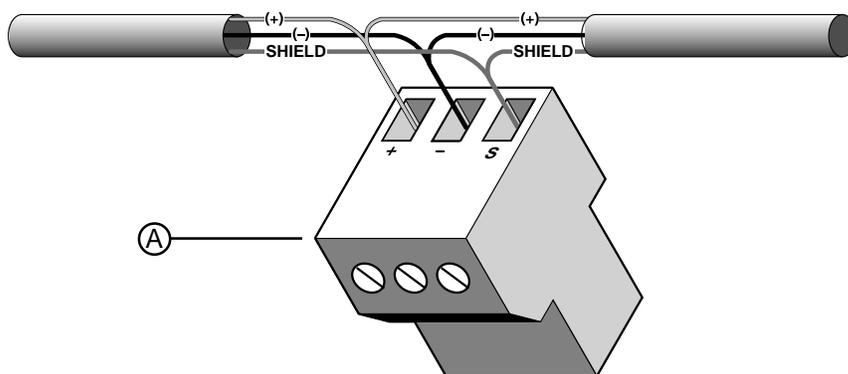

Figure 11: Connecting communications wires to the RS-485 terminal block
Each Enercept meter has a 3-position plug-in RS-485 terminal block (figure 11) for connection to a 2-wire Modbus communications link. On the Enercept meter, the communications connections are labeled +, –, and S (shield). To create the communications link, daisy-chain devices using a twisted, shielded pair wire such as Belden 1120A.
2. Wire the + terminal of the Enercept meter to the + terminal of the next device, wire the – terminal to the – terminal, and wire shield to shield (see figure 11).